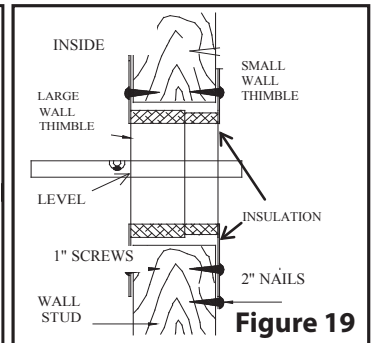

Figure 19
Slide the large wall shield over the small wall shield. Using a level make sure that the hole for the chimney to pass through is horizontal. Screw the inner thimble in place with the provided screws. (*see Figure 19*).
**NOTE:** The cavity surrounding the radiation shield must be filled with insulation (see Figure 19).